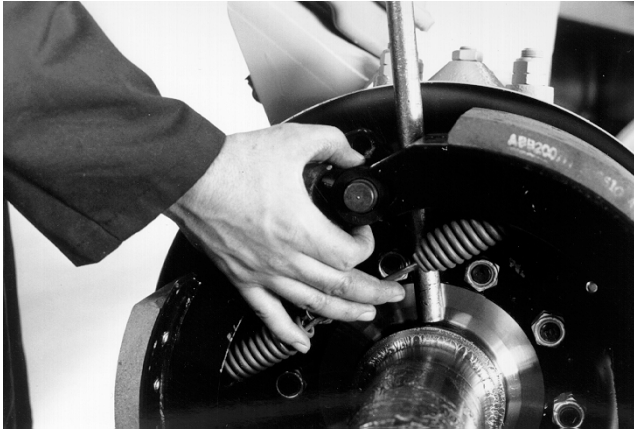

Figure 9
2. Insert a suitable pry bar down between the top of the brake shoe and a spindle locknut. Pry the shoe away from the S-cam and remove the roller. **DO NOT ALLOW YOUR FINGERS TO COME DIRECTLY BETWEEN THE SHOE AND THE S-CAM!** Relax the spring tension, and then remove the opposite roller in like fashion. See Figure 9.
6. Hook the two lower retaining springs into each brake shoe. By grasping the shoes at the top and spreading them apart, the circular recess in the bottom of each shoe can be fit over the anchoring pin on the brake spider. Install the large upper brake release spring over its two pins on the shoes, hooks facing down. Using a bar, pry the shoes away from the cam and insert the camshaft rollers. **DO NOT ALLOW YOUR FINGERS TO COME BETWEEN THE SHOE AND THE S-CAM!** See Figure 9.